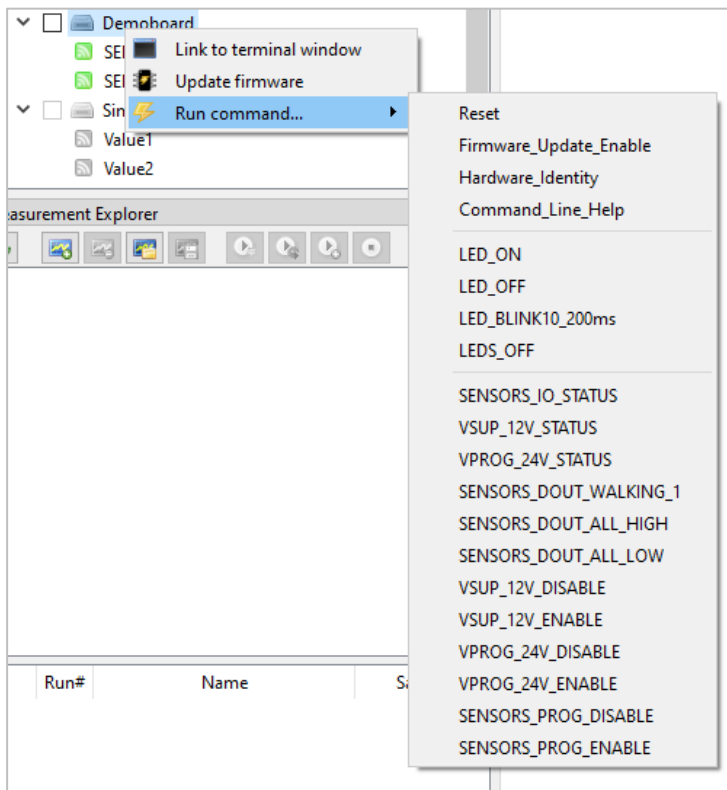
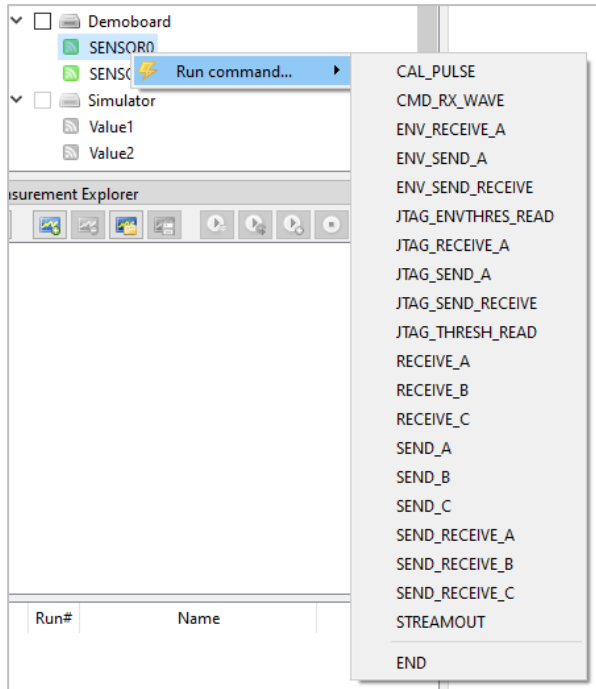

Figure 12: List of available commands to send to the board upon mouse right click.
Figure 13: List of available commands to send to the sensor upon mouse right click.
Channel explore provides with the features such as mouse right click and left click on board or sensor as seen in Figure 12 and Figure 13.
- **Right click** on board or sensor shows the available commands to send to board/sensor with a mouse click as seen in Figure 12 and Figure 13.